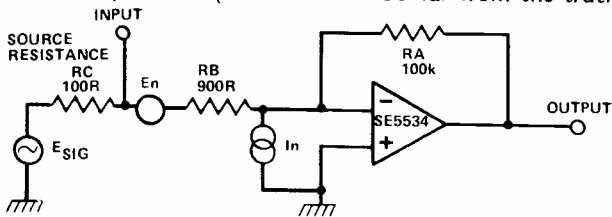

Fig.13. A low noise amplifier.
Q. Calculate the output noise in a 20 kHz bandwidth for the circuit in Fig.13. Assume the voltage and current densities have a flat spectrum (which is not too far from the truth!).